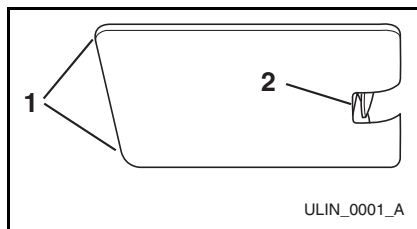

**Figure 32**
- Place door on lower hinge pin. Align flat edge of top hinge with outer edge of unit and fasten upper hinge to unit (four screws) (**Figure 32**). Partially tighten screws until door is aligned.